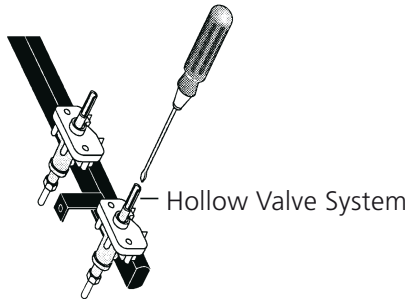

Figure 20
2. Adjust the "LO" or "SIMMER" Setting of Surface Burner Valves (30" Cooktops Only) (see Figure 20)